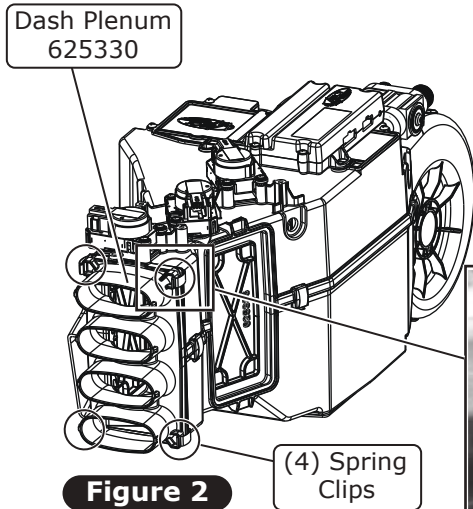

Figure 2
3. Install the dash plenum using (4) spring clips (See Figure 2 and Photo 3, below).